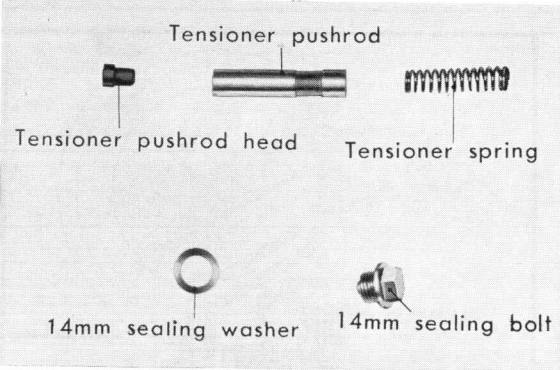

Figure 3-62. Component parts of cam chain tensioner
- (1) Assemble the cam chain tensioner component parts. (Fig. 3-62)